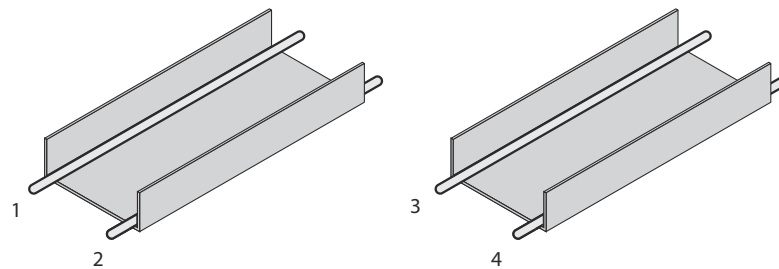
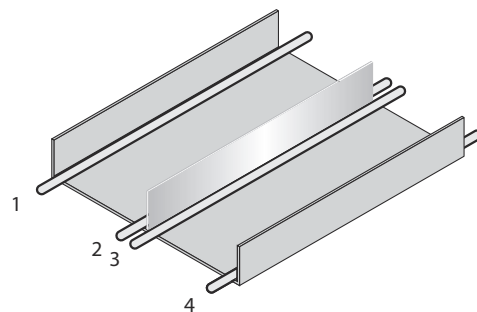

Figure 5: Ideal laying - Place cables in different cable channels
Figure 6: Alternative laying - Separate cables with metallic separators
- ▶ Route the cables in groups 1, 2 and 3, 4 in different cable channels or use metallic separators (see figure 5 and see figure 6). This applies particularly if cables of devices with a high level of radiated emission, such as frequency converters, are laid parallel to device cables.